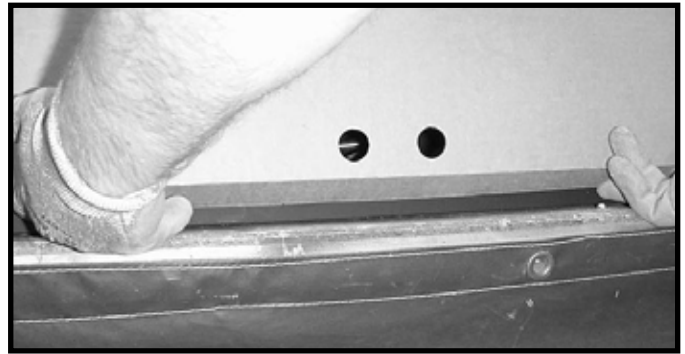

Figure 11.7 Folding Bottom Flap
Step 5. Fold bottom flap along score line as indicated in Figure 11.7 and tuck into valve access area of appliance. Splatter guard should fit securely on front of unit.